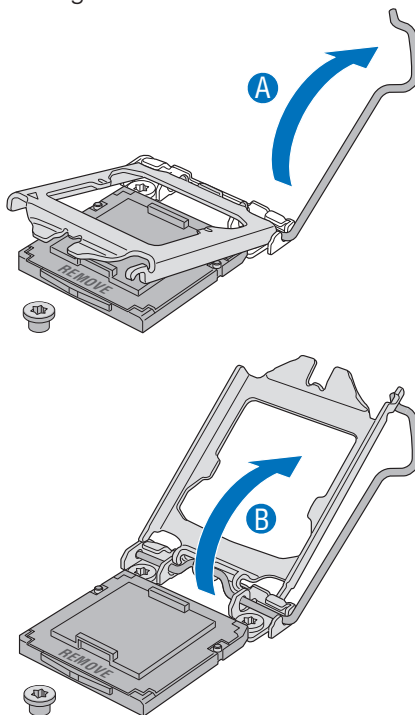

Figure 12. Opening Load Plate
8. Push the rear tab with your fingertip to bring the front end of the load plate up slightly. Open the load plate completely. See figure 12.